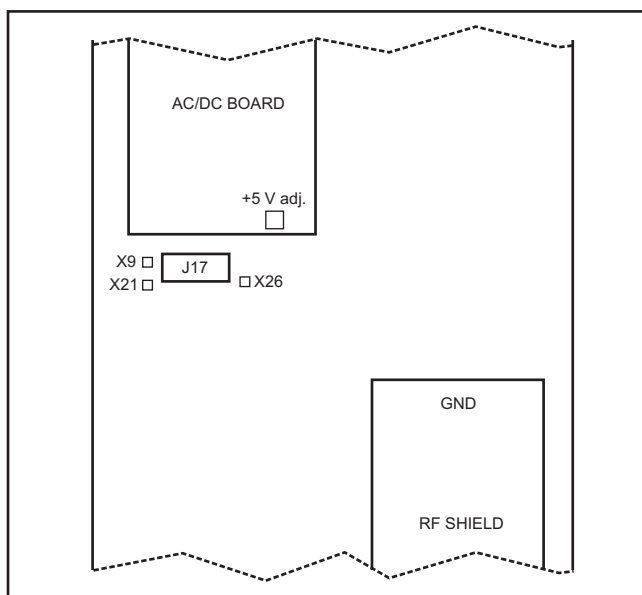

Figure 7-4 Adjusting +5 V and checking +15 V and -15 V.
- Connect the DMM to test point X9 and ground (metal shield lid over input amplifiers). See Figure 6-4 and Figure 7-4.